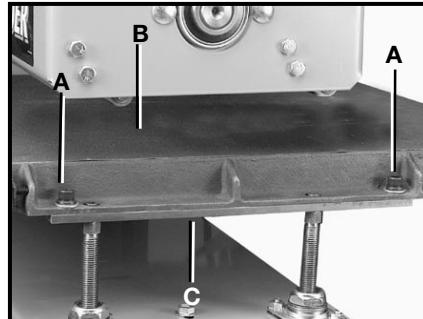

Fig. 6
- Remove the two (2) screws, lock washers, (and flat washers if your unit has them) (A) Fig. 6, which secure sanding table (B) to table mounts (C). **IMPORTANT: Loosen, but do not remove the two (2) screws which secure other side of table.**